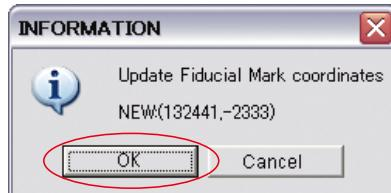

Figure 1-13 Fiducial Mark 5
Step28: The dialog shown in Figure 1-13 appears and press **OK**.